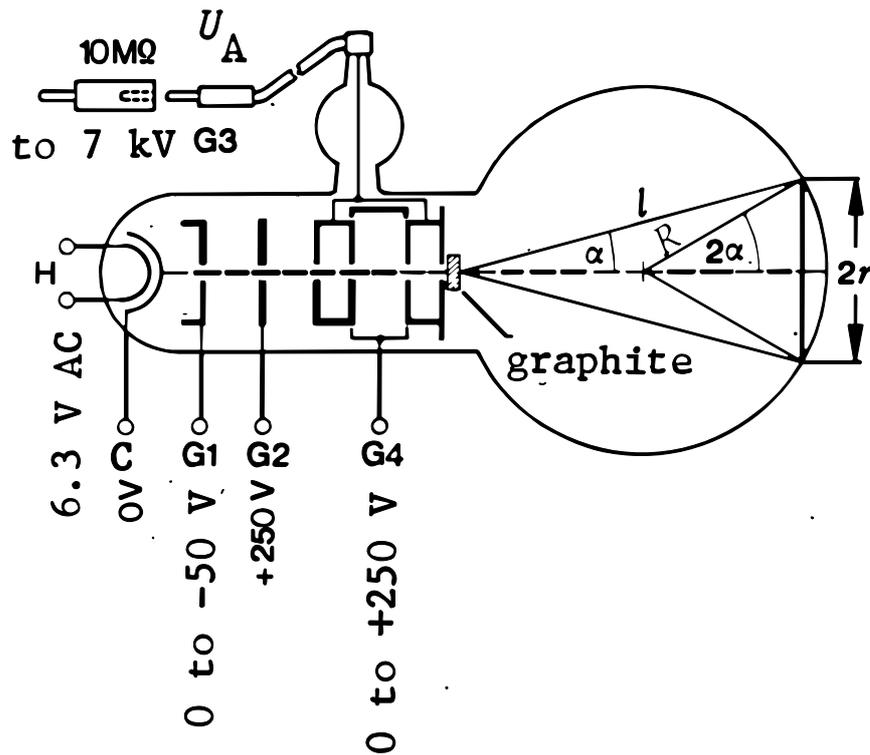

Fig.1. Electron diffraction vacuum tube
In the present experiment observations are to be made using the electron diffraction vacuum tube with graphite lattice placed inside it (Fig.1.). The high speed electrons are produced by the electron gun (H,G1 - Fig.1.) and by means of electronic lens system (G1, G2, G4, - Fig.1.)they are brought into the narrow beam.
The electrons beam strikes the polycrystalline graphite film deposited on a copper grating (see Fig.1.) and is reflected.
Bragg angle  $\theta$  - can be calculated from the radius of the interference ring but it should be remembered that the angle of deviation -  $\alpha$  - (see Fig.1.) is given by - Eq.5.:
From Fig.1. one can find that - Eq.6.:
1. Check out connections of the terminals of the electron diffraction tube to the power supplies – compare it with Fig.1.(H, C, G1, G2, G4).